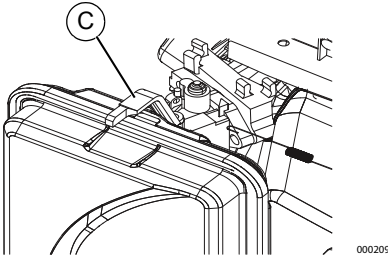

Figure 3-3. Choke Position
5. Slide engine choke (C) to Full CHOKE position (left). See Figure 3-3.